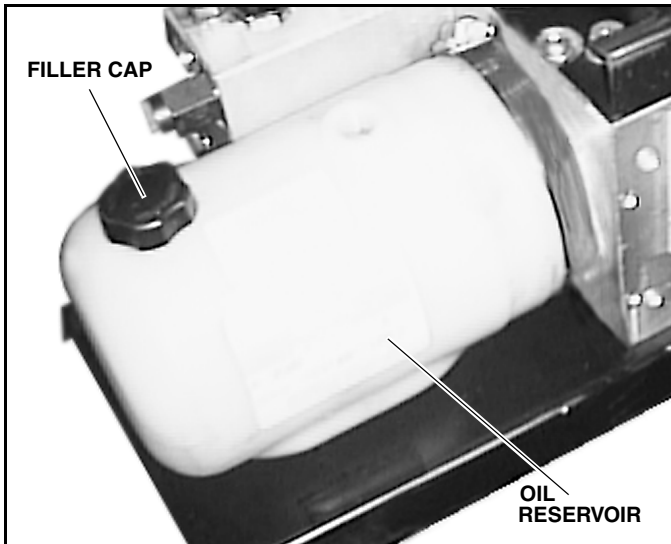

Figure 2-1
2. Remove two (2) self-tapping screws from the front of the cover and loosen two (2) cap screws from the rear. Remove the cover.
3. Remove the filler/breather cap from the reservoir. (See Figure 2-1).
5. Loosen the clamp securing the oil reservoir to the pump assembly and remove the oil reservoir being careful not to damage the filter screen while removing the oil reservoir. (See Figure 2-1).